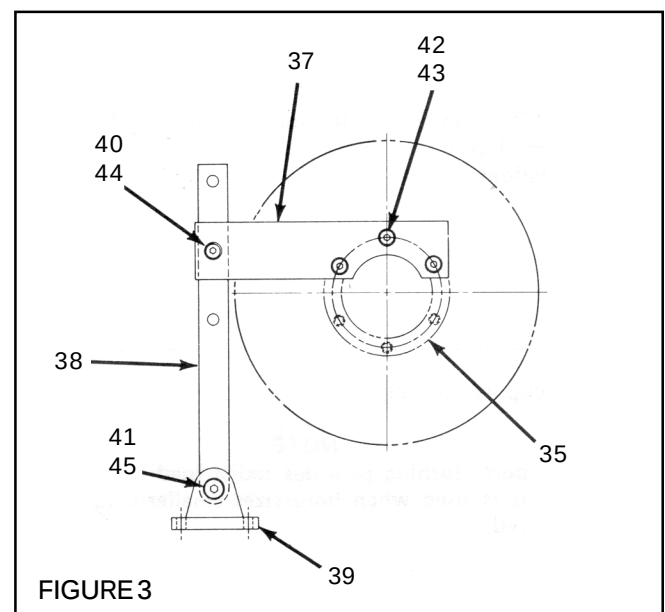

FIGURE 3
1. Using Cap Screws (item 42) and Lockwashers (item 43) secure Torque Arm (Item 37) onto Splined Hub (Item 35) (See Fig. 3).
3. Using Cap Screws (item 40) and Lock Nut (item 44), secure Extension Arm (item 37) to Torque Arm (Item 38) (See Fig. 3).
4. Tighten Lock Nut (item 44) to 70 ft. lbs. torque.
5. Using Cap Screw (Item 41) and Lock Nut (item 45), attach Extension Arm (Item 38) to Bracket (Item 39) (See Fig. 3).